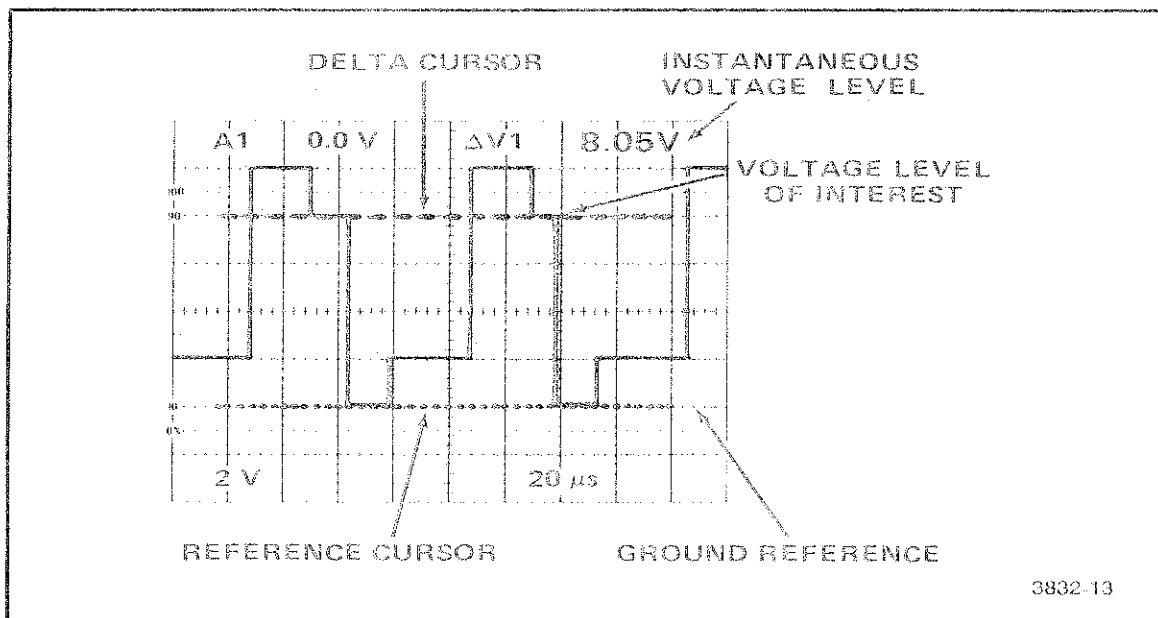

Figure 3-1. Instantaneous dc levels.
3. Activate ΔV , position the two cursors on the waveform at the points of interest, and read the voltage between the two cursors from the crt readout (see Figure 3-1).